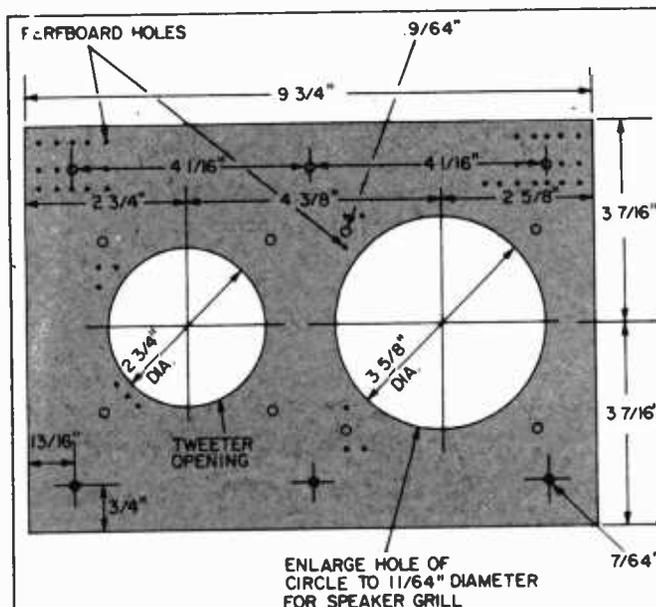

Fig. 1. Perfboard drilling for Ice-Box Hi-Fi. There are a lot of holes to drill, so be careful, because the perfboard can splinter.
In the circuit of Fig. 1, we used a 4.2-volt mercury battery, and selected a reference current of 8.75 mA. Find the value of the resistor needed for R_I . A ZN458 (2.45 volts) is used.
The table shows values for R2/R3 needed for output voltages of 5 and 10-volts. Note that the resistors used in this circuit must be low temperature coefficient precision (1%) resistors, or drift will result. It is even more important in this circuit, than in the circuit of Fig. 1. The trimmer potentiometer should be a ten-turn, precision type, so that very tight control over the adjustment of the output voltage is possible.
There is, however, a hitch in this variable output circuit. It is not inherently "calibrated" as is the case of Fig. 1. Although this circuit is capable of better accuracy, initially, it must be adjusted. You will have to find a very accurate voltmeter, or precision reference potentiometer to make the initial adjustment. After this adjustment, however, it should remain in calibration for a long time. ■
Fig. 1. This is a basic schematic used to demonstrate the calculations necessary to determine the value of the associated components used in the regulator circuit. Refer to the text for a full explanation.
Easy to Build. A 10X Low Capacity Test Probe circuit is shown in Fig. 1. Basically, it consists of two components: trimmer capacitor C1 and resistor R1. C1 is generally any small trimmer with a maximum capacity in the range of 25-50 pF. R1 should be 9 megohms for a precise 10:1 voltage division: ie: the scope will indicate 1 volt P-P if the input to the cable is 10 volts P-P. However, 9 megohms, or anything close, is usually unattainable by the hobbyist. If you substitute a 10 megohm 5% resistor for R1 the accuracy will be sufficient for almost all applications (nominal voltage readout error will be about 10%).
Figure 1 shows the perf-board modifications to convert it to a speaker baffle and grille. Check the length and width of the perf-board when you buy it, they vary somewhat in size. Cut the $2\frac{3}{4}$ -inch diameter tweeter opening with a circle cutter and redrill the holes inside a $3\frac{5}{8}$ -inch diameter pencil scribed circle, forming a grille for the 4-inch speaker mounting.
- Nuts for above cardboard mask 6 7/8 x 9 3/4-inch, see Fig. 2. Pre-punched perf-board 6 7/8 x 9 3/4-inch, see Fig. 1. Building grade, 4-inch fiberglass 5 3/4 x 8 3/4-inch. Elmers Glue-All or equal, terminal strip or brass machine screws (see text), hook-up wire, solder, etc.
The division selected depends upon whether pin 7, Fig. 1, is operated at logic 0 (low) or logic 1 (high). For the five devices, a logic 0 pin 7 produces a division of 6, 60, 120, 360 or 3600. A logic 1 at this pin results in divisions of 5, 50, 100, 300 or 3000.
The Basic Circuit. To use the small 8-pin RED 3000/3600 LSI to convert 60-Hertz line frequency to 1 pulse per minute output, you need only a low-voltage 60-Hz source that can be derived from a small transformer as shown in Fig. 1. The maximum clock input voltage at pin 5 should not have a peak-to-peak voltage change that exceeds the difference of potential connected between pin 8 (V_{DD}) and pin 3 (V_{SS}).
Using the small, eight-pin RED 3000/3600 LSI, shown in Fig. 1 at the top, to convert 60-Hz line frequency to 1 pulse per second requires only a low-voltage 60-Hz source, such as the one derived from the transformer shown in the circuit diagram. The circuit will function at voltages considerably lower than the 6-6.3 volts specified, but input current should be limited to a maximum of 2 mA. Two 4017s can be clocked by the output of the divider to obtain 10-minute and 1-hour outputs, as shown in Fig. 2 at bottom. Multiply Fig. 1 circuit by ten.